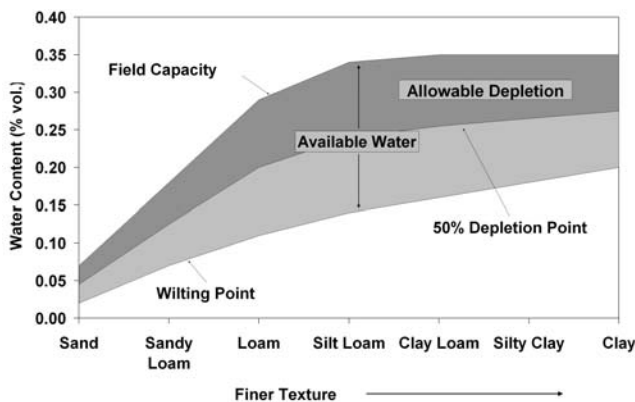

Figure 2. The amount of allowable depletion, or the readily available water, represents about 50 percent of the total available water.
- Allowable Depletion (readily available) is the point where plants begin to experience drought stress. For apples, the amount of allowable depletion, or the *readily* available water represents about 50% of the total available water in the soil. (Figure 2.)